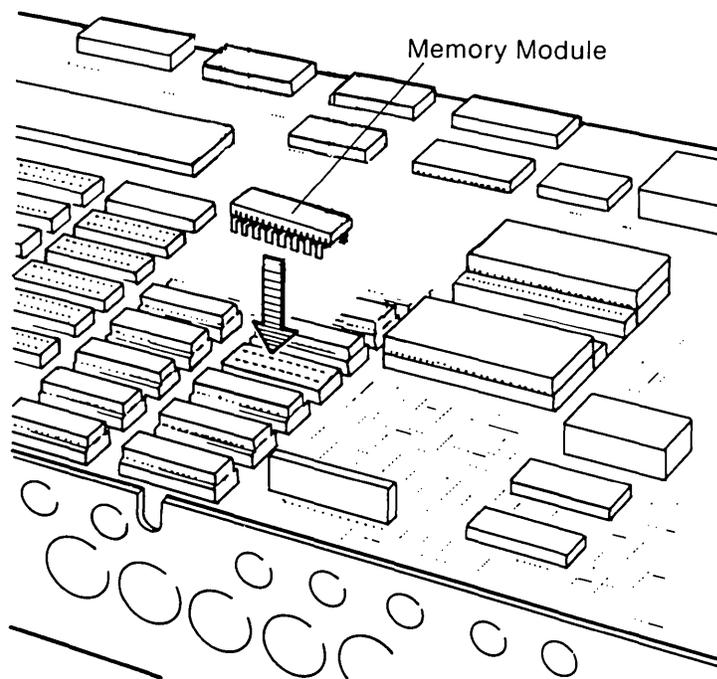

Figure 11-31. Inserting Memory Modules Into Sockets.
7. Install the memory IC into the sockets as shown in Figure 11-31. You can use a special IC insertion tool, if you have one.
The pins on the ICs bend easily. Carefully line up the pins in the socket before pressing into place. The notch or PIN 1 locator dot on the IC should be inserted so that it faces toward the five I/O connectors on the board. Bending the pins can make the IC unusable (see Figure 11-31). After insertion, carefully check that all pins are in the socket and that none are bent or are outside of the socket.